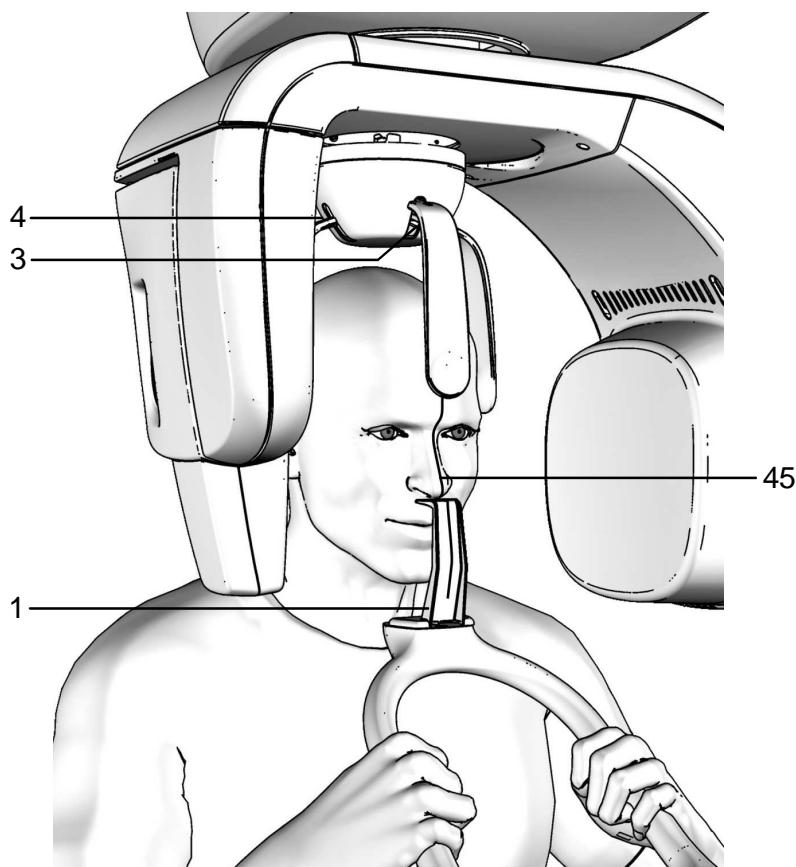

Figure 14 – TMJ closed mouth positioning
4. Position the patient with the temple clasps (Figure 14) asking him to place his hands on the front support.
Using as reference the sagittale medial plane laser, position the patient's head in such a way that the sagittal medial plane is lit by the corresponding laser beam as in Figure 14.